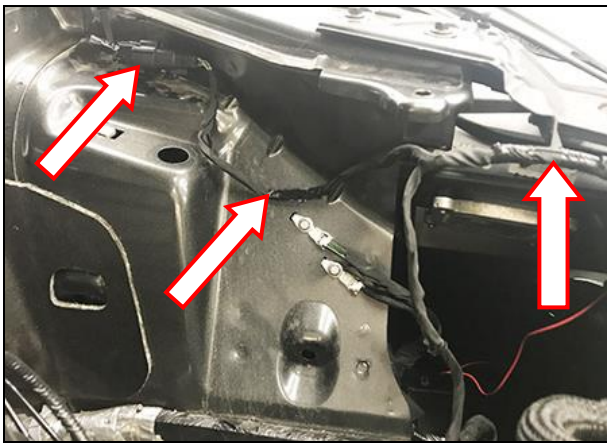

Figure 2
7. Carefully disconnect the terminated plug from the fender and both push clips attached to the wiring harness (**Figure 2**).